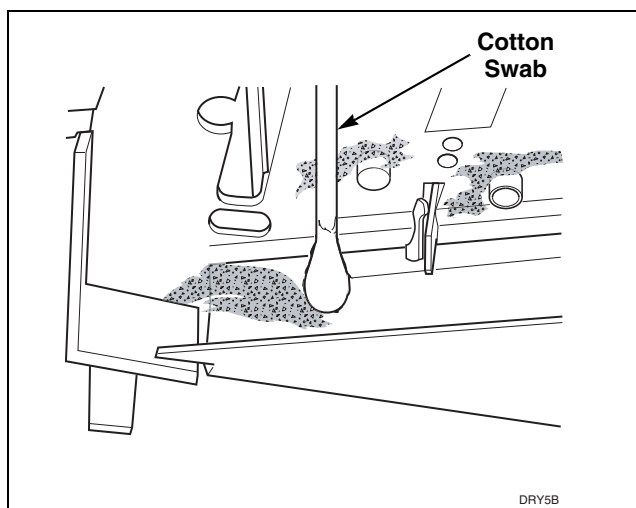

Figure 22
- h. Check coin path in coin drop for lint and residue. If lint or light residues are present, use a cotton swab to remove. If heavy residue is present, it may be necessary to first scrape off excessive residue and then use a cotton swab dipped in water or isopropyl alcohol (rubbing alcohol) to remove remainder of residue. Refer to *Figure 22*.